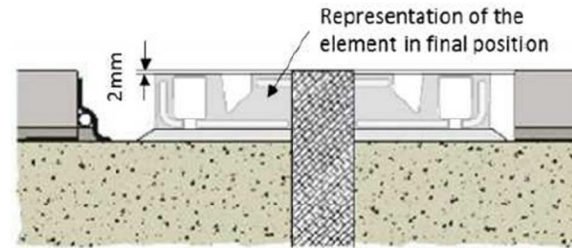
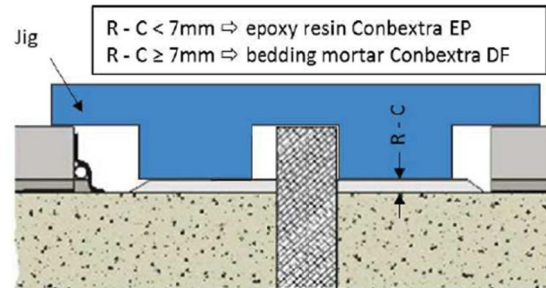

Figure 4
Figure 5: Setting the bedding thickness by using special Jig)
- Adjust the bedding thickness by using a metallic or wooden jig (Figure 5) to position the elements between 0 and 2 mm below the road surface level (Figure 4).
- Use as bedding support the following products depending on pavement thickness (R) and joint thickness (C) (Figure 5):